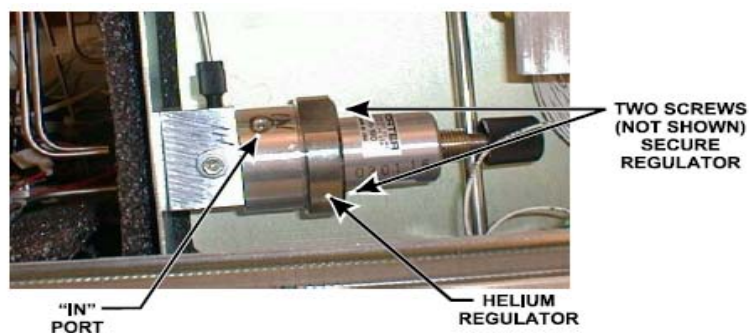

Figure 3-15
4. Working from the top of the unit, locate the helium regulator figure 3-15 below. Note that the IN port is in an upward position. Remove the two screws that secure the regulator to the Helium regulator manifold block and then remove the regulator. Rotate the regulator 180° and then reinstall the regulator to the Helium regulator manifold block using the screws previously removed.